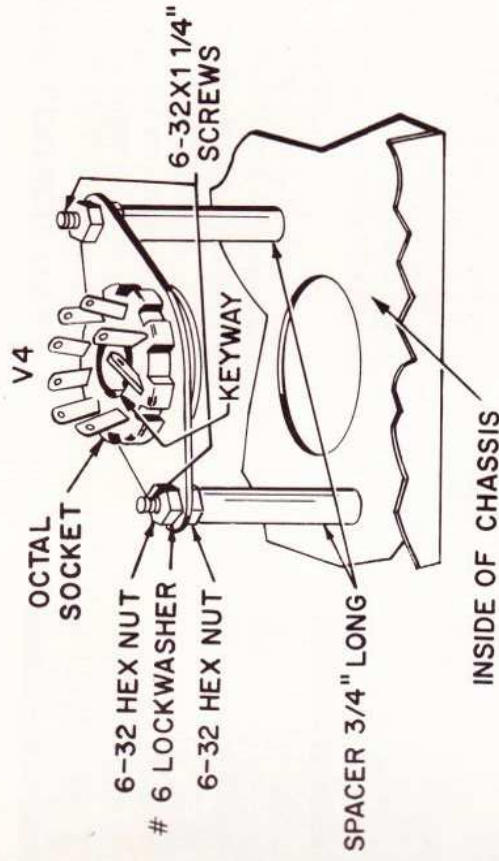

FIGURE 3
- ✓ 8-pin tube socket for V4 (largest socket) and two 3/4" spacers. See Figure 3. From the top of the chassis, insert a 6-32 x 1 1/4" screw through each of the mounting holes. Place a 3/4" spacer and a nut over each of the screws. Then place the tube socket over the screws so the keyway points toward the back of the chassis. Loosely fasten with two #6 lockwashers and nuts.